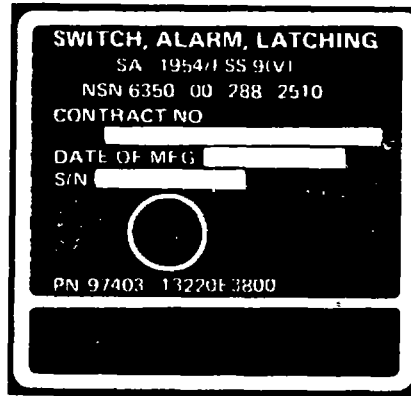

Figure 1-2. Latching Alarm Switch Identification Plate
a. Identification Data. An identification plate (fig 1-2) is mounted inside the enclosure.